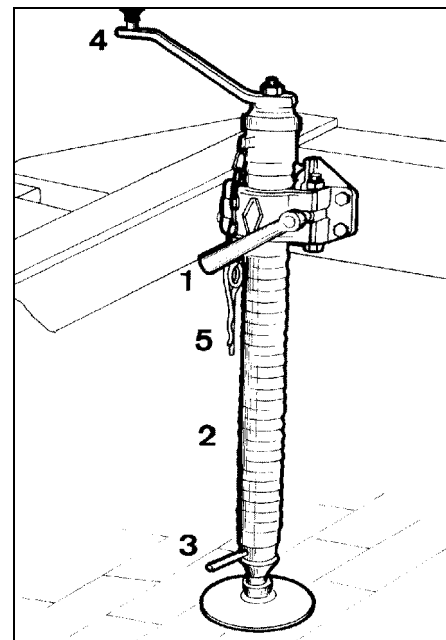

Fig. 1
- Set height of the draw bar with the crank 4 (Fig. 1) and couple the machine to the towing vehicle.
- Use suitable slings and only attach them to the lifting eyes on the machine (Fig. 1,2).